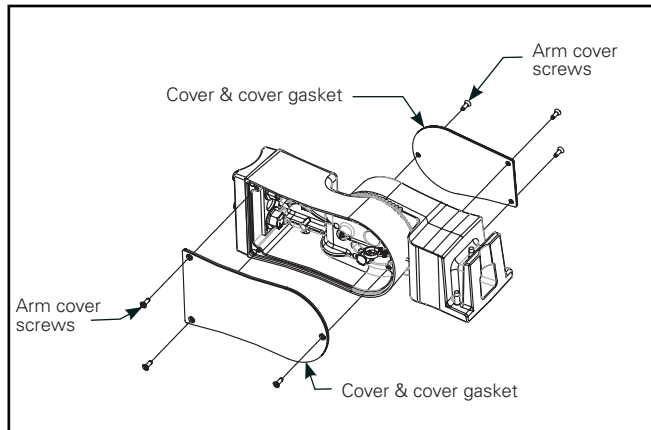

Figure 1.
1. Loosen six arm cover screws to remove the two access covers from the arm. Save hardware (Figure 1.)